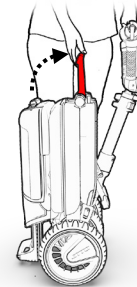

Figure 7
5. Hold ATTO by the main handle and the handlebar (see Figure 7).